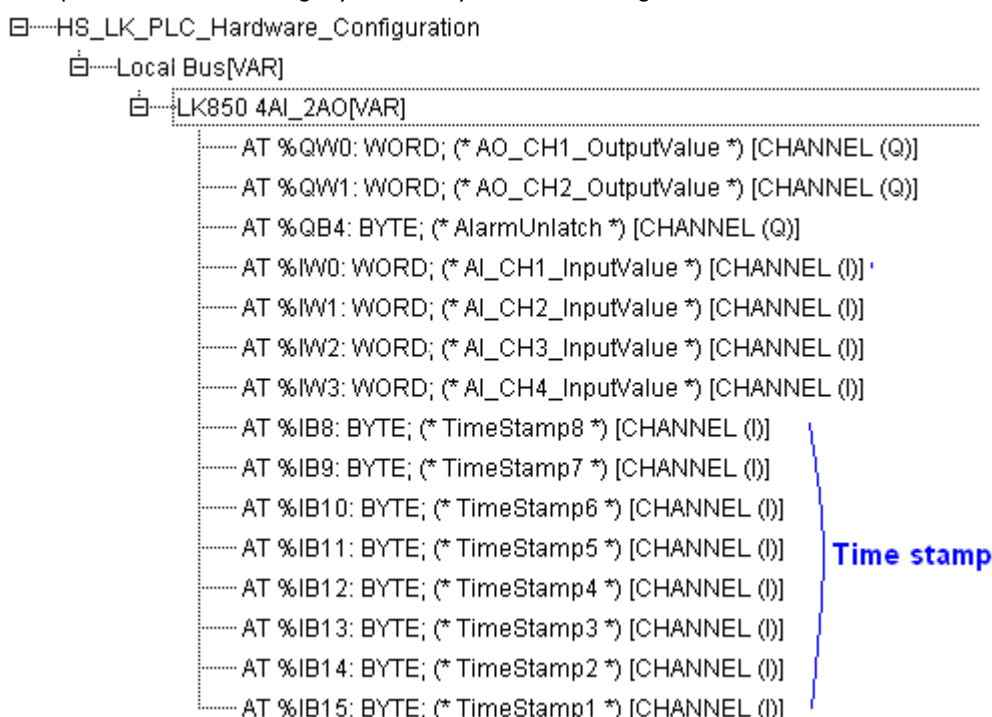

Figure 11.63: LK850 AI Channel Time Stamp
- Time stamp value consists of 8 BYTE type variables that it can be divided into Timestamp8~Timestamp1 according to the sequence of hexadecimal high byte to low byte, as shown in Figure 11.63.